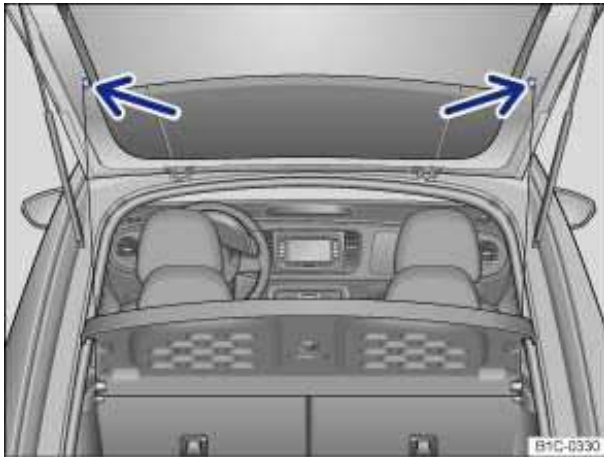

Fig. 77 On the rear hatch: Installing and removing the supporting cords.
- Unhook the supporting cords from each side of the rear hatch ⇒ fig. 77 (arrows).
- HoOK the supporting straps onto the rear hatch ⇒ fig. 77 (arrows).